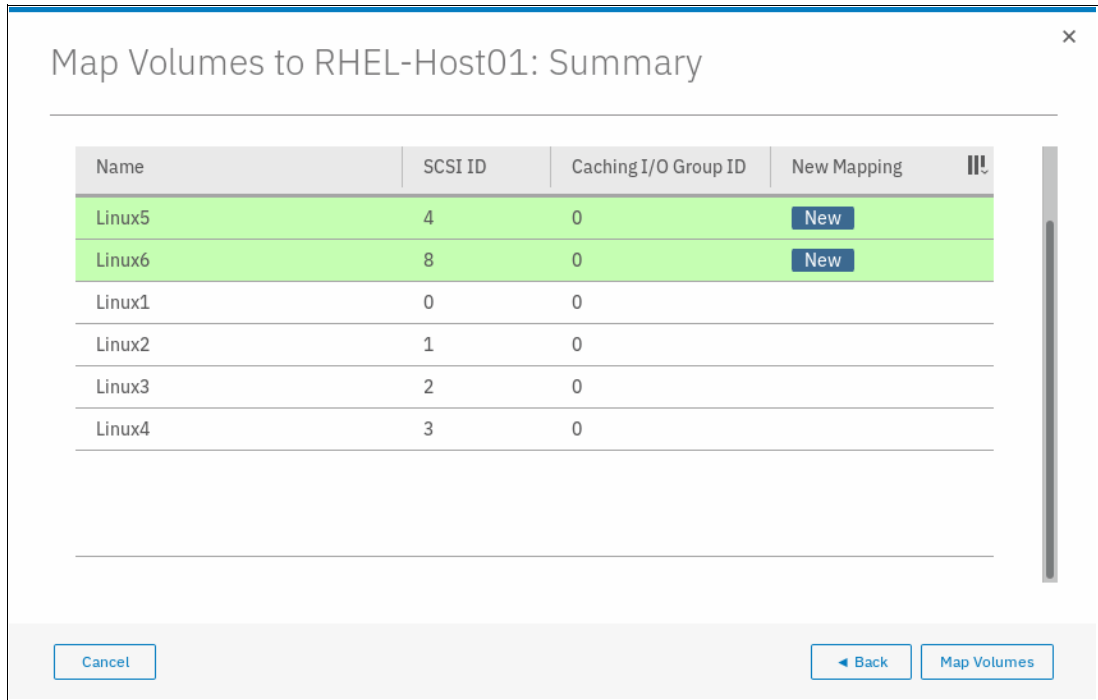

Figure 8-8 Volume map
- Click **Next**. A window opens in which new mapping to the host is shown, along with mapped volumes to that host, as shown in Figure 8-8 on page 388. SCSI IDs for each of the mappings are also shown as part of this process.